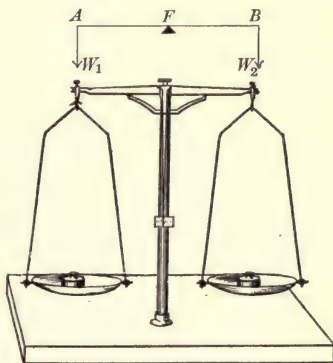

FIG. 8.—Equal-arm lever.
arms, such as a seesaw, or the walking beam on a steamboat, or the scale beam on a platform balance. In this case we know that equal weights or equal forces just balance when placed at equal distances from the point of support. Thus in figure 8, when W_1 equals W_2 , the distance AF must equal the distance BF . In the technical language of physics the point of support (F) of a lever is called its **fulcrum**.